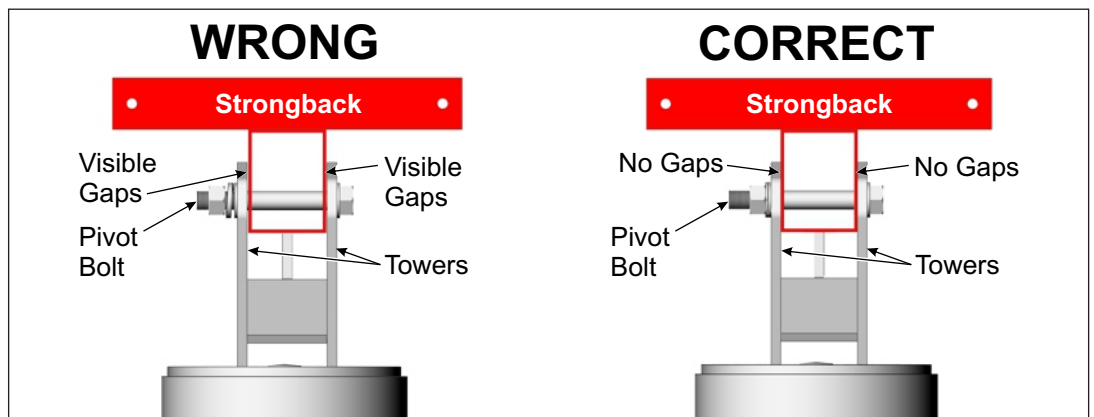

Figure 2-4: Tighten and Torque the Pivot Bolt
- G. Tighten the Pivot Bolt. The Pivot Bolt cannot be left loose - the Mounting Sleeve Vertical Towers must be firmly clamped to the sides of the Strongback eliminating any gaps between the Vertical Towers and the Strongback. **Torque to 330-350 ft.-lbs.** (See Figure 2-4)